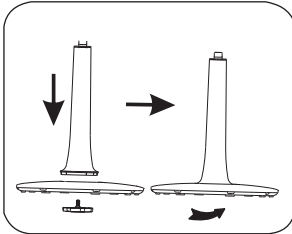

Figure 1
2. Use the locking plate to tighten between column components and base components. (See Figure 1)